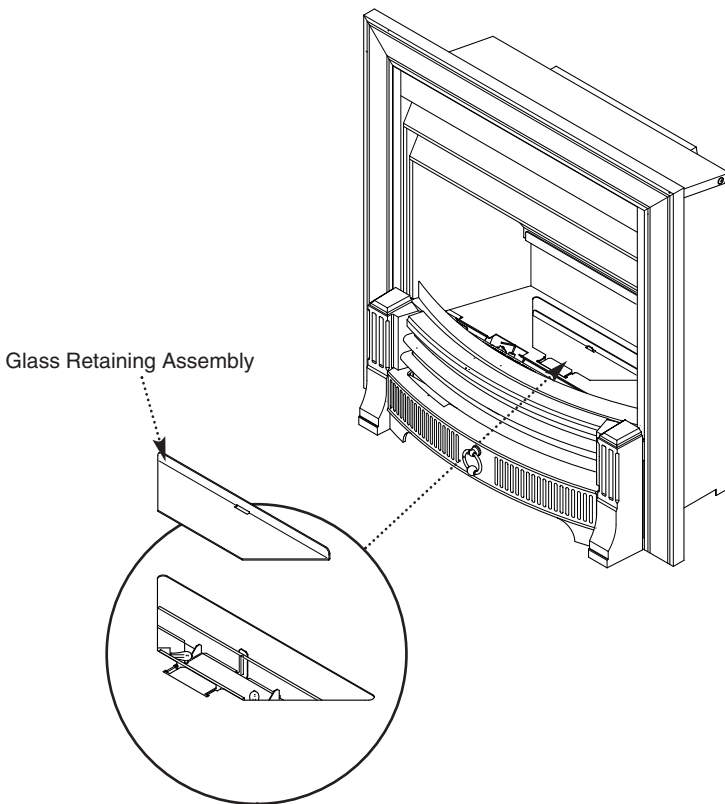

Fig. 9
2. Lift out the glass retaining assembly (Fig. 9).